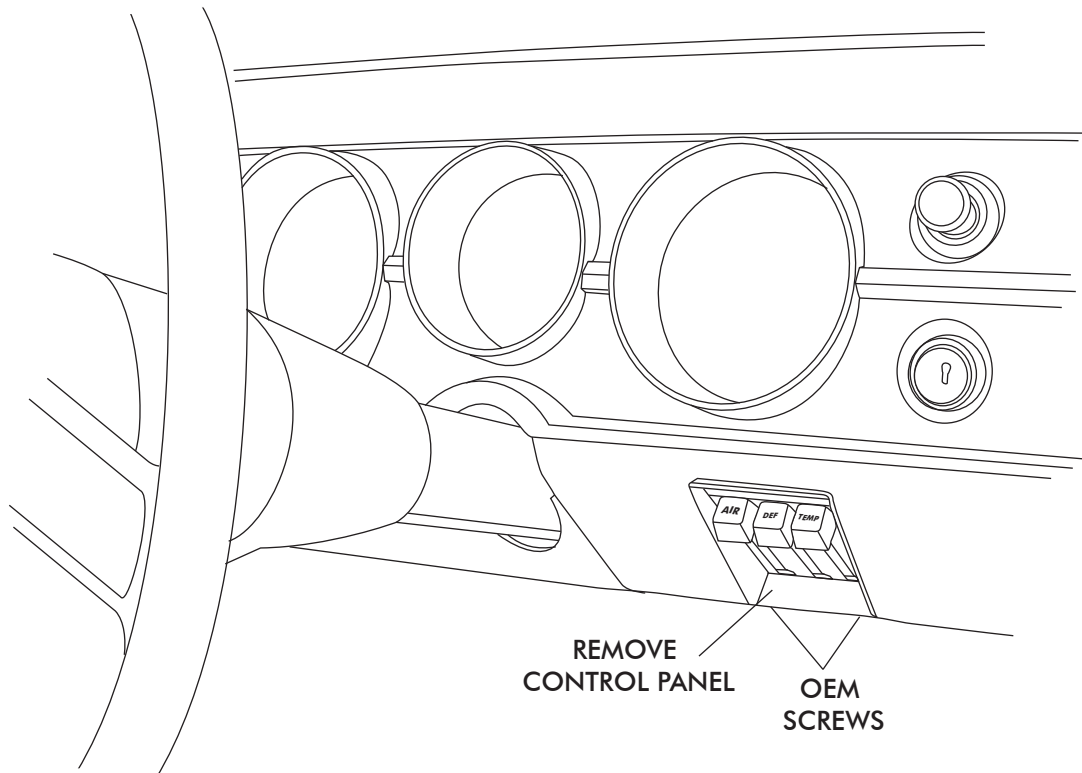

FIGURE 1
- ☐ REMOVE (4) OEM MOUNTING SCREWS FROM BOTTOM OF DASH (RETAIN SCREWS). SEE FIGURE 1 BELOW.